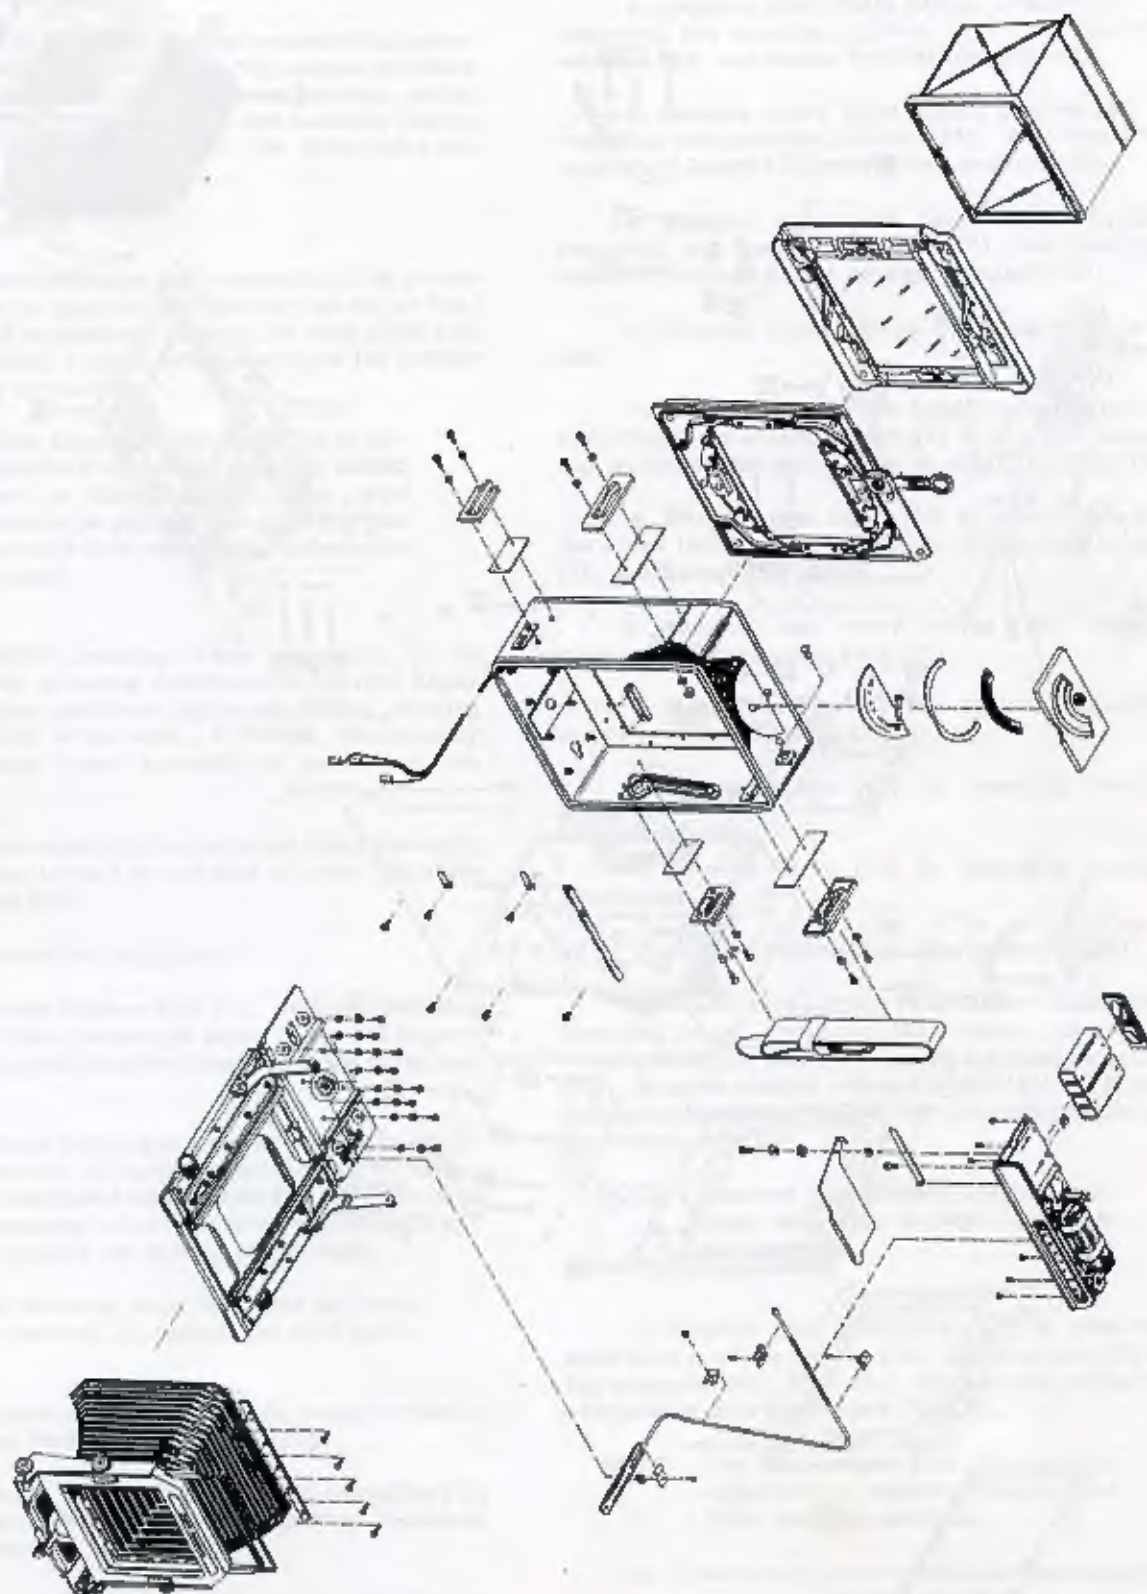
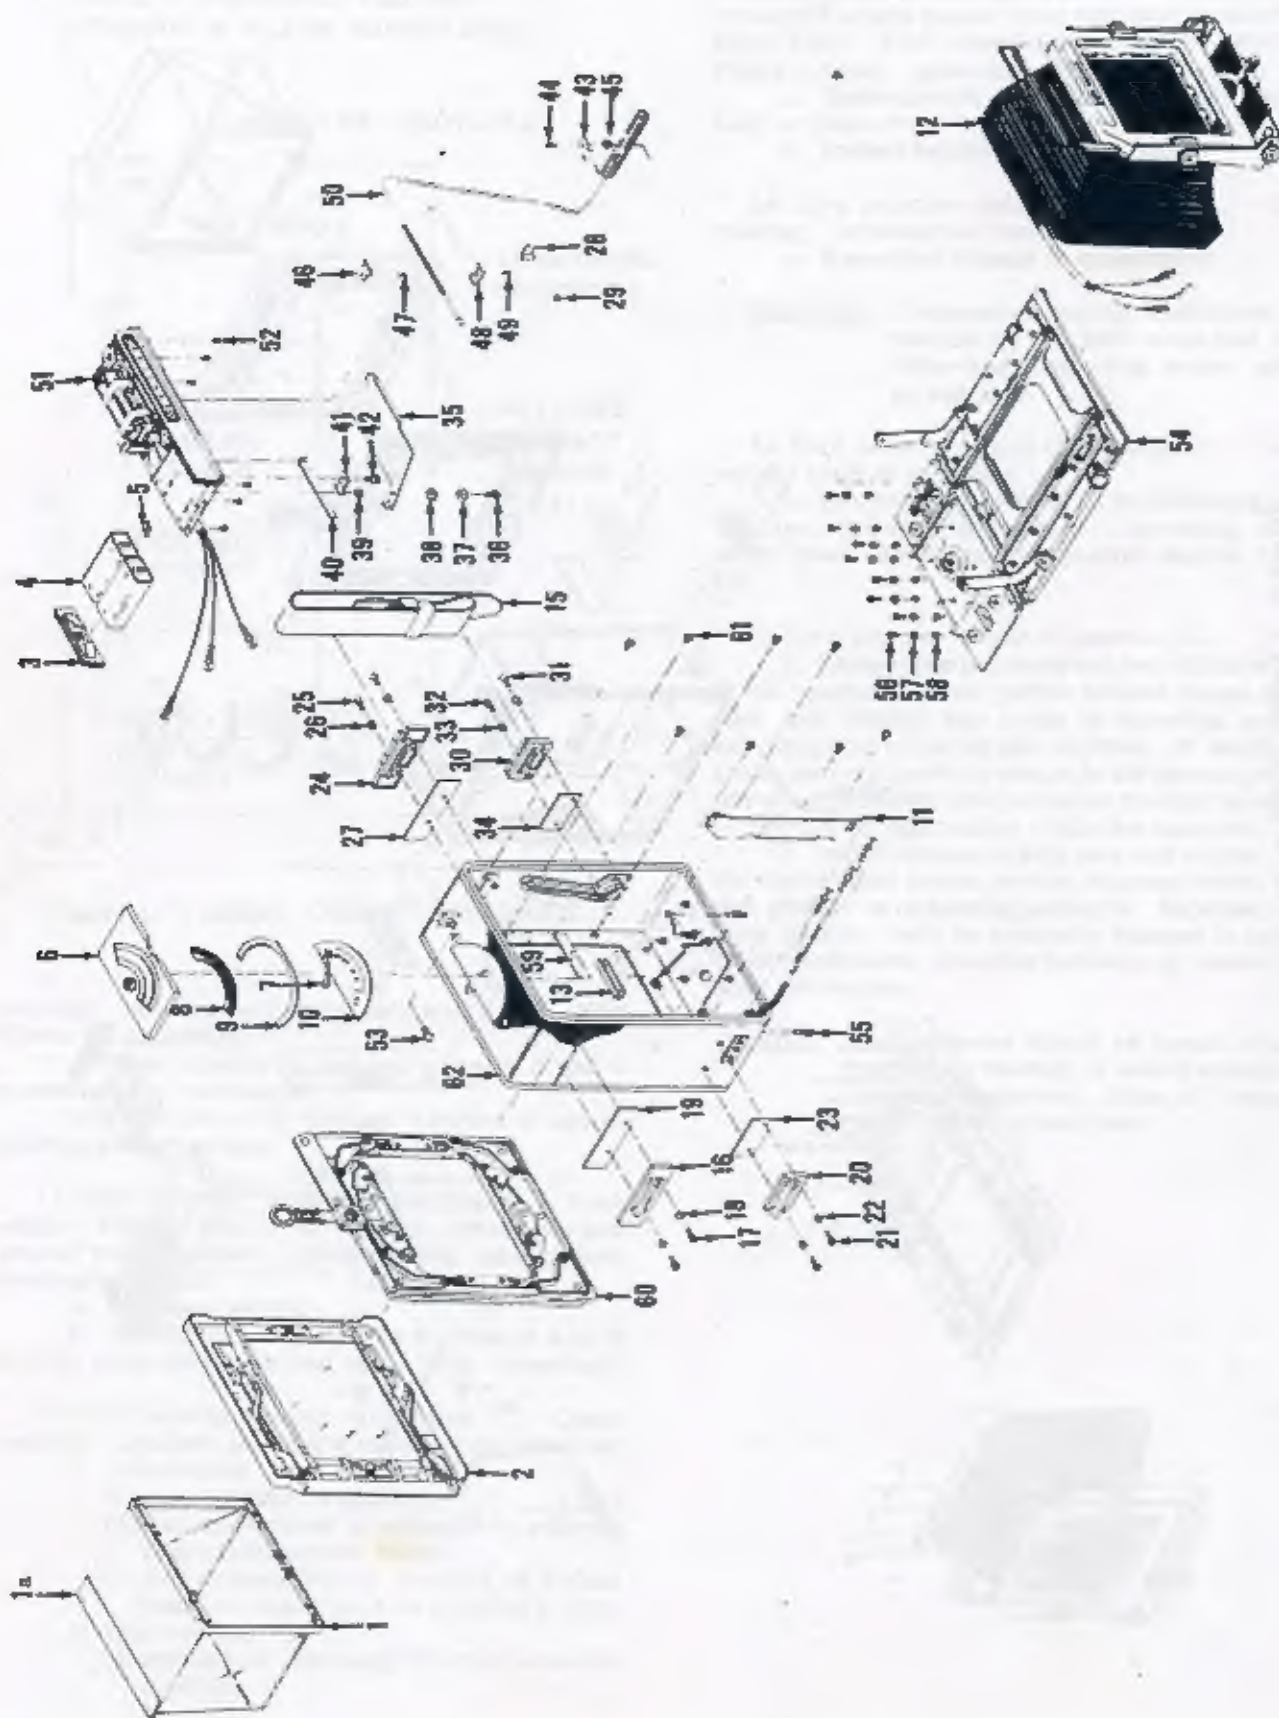

Figure 6. CAMERA BASIC (up to serial No. 646124)
Figure 7. CAMERA BASIC (over serial No. 846124)
**GENERAL:** The disassembly and reassembly procedure is based on cameras bearing serial numbers over 846124 (Figure 7). Cameras bearing serial numbers up to 846124 (Figure 6) are partially identical in construction and service; the differences are described in the Parts List.
a. Remove focusing hood assembly (1) by pressing downward to open and pull outward on top or bottom panel. If necessary, remove the dark slide clip (1a) by inserting a small tool under front top corner and pressing outward.
b. Remove focusing frame assembly (2) by simultaneously pressing downward on knurled finger pads of the upper and lower arms and sliding focusing frame assembly to the right. If further disassembly of the focusing frame assembly is necessary, see Par. T.
c. Remove battery compartment cover assembly (3) by pressing inward on left side of cover and slide slightly to the left.
d. Remove two batteries (4).
e. Remove retainer clip (5), release focusing scale cover lock (located in upper section of battery compartment) and remove focusing scale cover assembly (6).
f. Remove focusing scale indicator (7) by applying small amount of methyl ethyl ketone to loosen adhesive around pinion shaft. Use two screwdrivers to support focusing scale indicator, pry straight upward, being careful not to bend pinion shaft.
g. Remove exposure guide (8), exposure guide spring (9) and focusing scale plate (10).